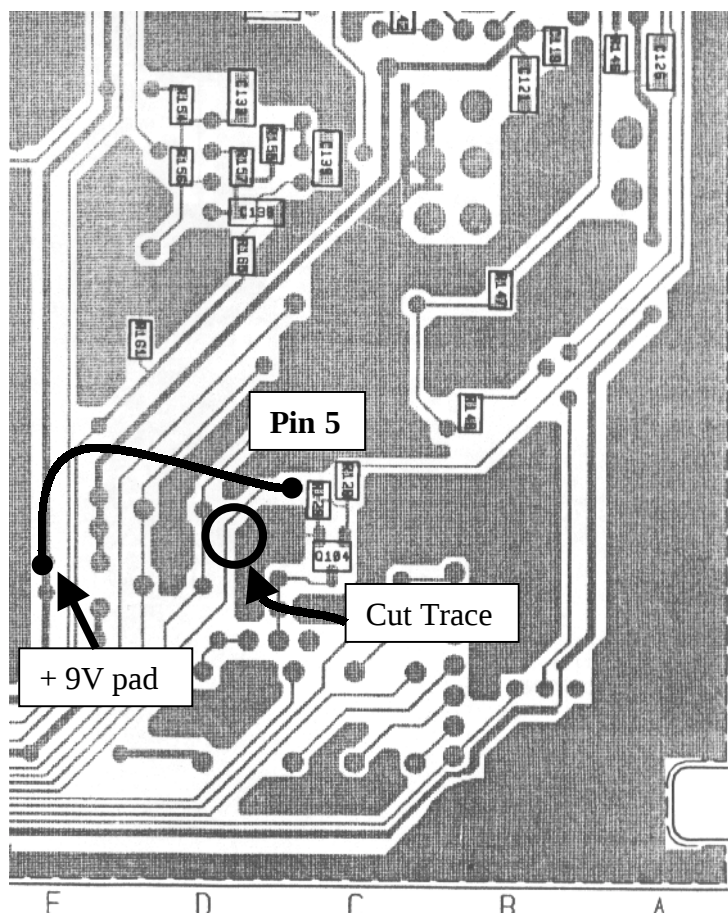

Figure 2 - T885 Receiver PCB, Bottom Side (EEPROM Module). 2/3
5. On the bottom side, cut the trace between pin 5 of T100 and the pad going to pin 1 of DRANGE connector (PL100). Refer to Figure 2, page 5.
6. On the bottom side, solder a 1.5" wire (26AWG) from the +9 volts feedthrough to pin 5 of T100. Refer to Figure 2, page 5.